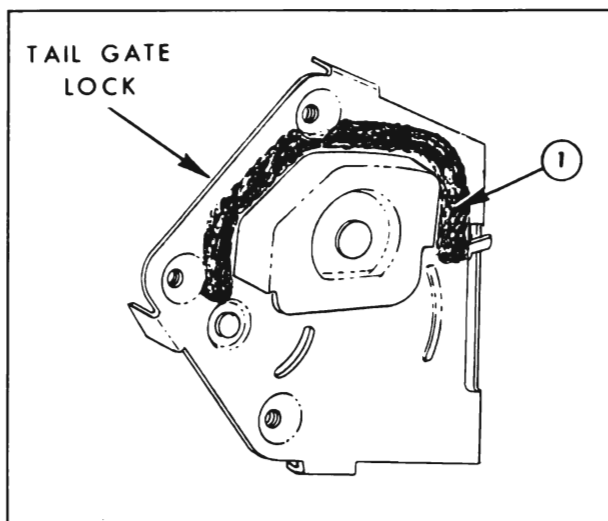

Figure 4-25—Tail Gate Lock Sealing
5. To install tail gate lock assembly, reverse removal procedure. Prior to installing lock assembly into tail gate, apply a bead of body caulking compound to lock frame along the joint of the lock bolt housing, as indicated at "1" in Figure 4-25.